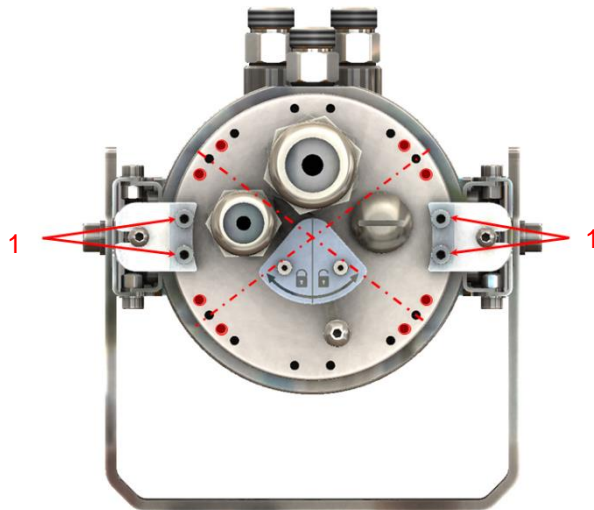

Figure 50: Installation angle of the camera
The chassis can be rotated as follows for the diagonal setup. Unlock the hinge and release the CoolingJacket using the locking lever. Loosen the four screws (1) on the mounting brackets (see **Figure 50**). Now turn the chassis to the desired direction (right or left) and fix it again in the desired position. The positions for the screw connection are marked in red in **Figure 50**.